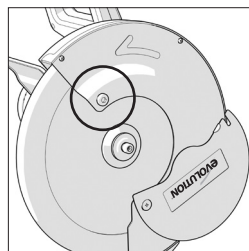

Fig. 2
- Loosen the fastener screw securing the arbor guard and rotate the guard upwards to reveal the machine's arbor. (**Fig. 2**)